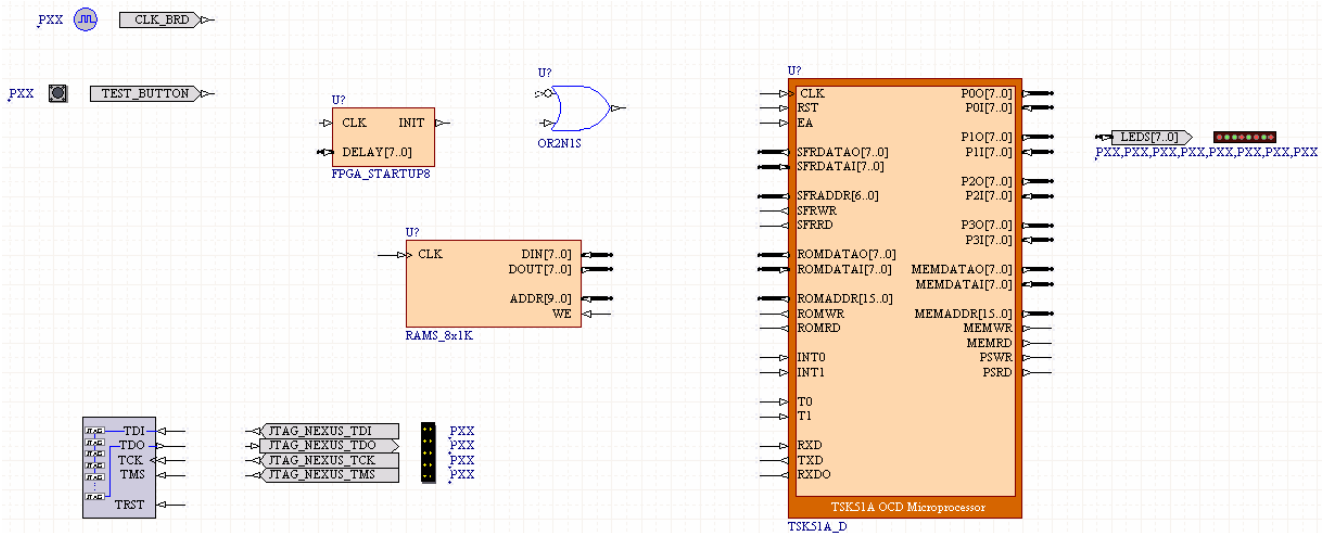

Figure 1. Initial placement of components on the schematic sheet, Sheet1.SchDoc.
4. Place the following components (listed below in Table 1) on the schematic sheet as shown in Figure 1. Placement can be made direct from the **Libraries** panel. Simply select a component and either click the **Place** button at the top-right of the panel, or click and drag the component directly onto the sheet. Each of these components are available from the default generic FPGA integrated libraries, so there is no need to add any libraries for this tutorial.